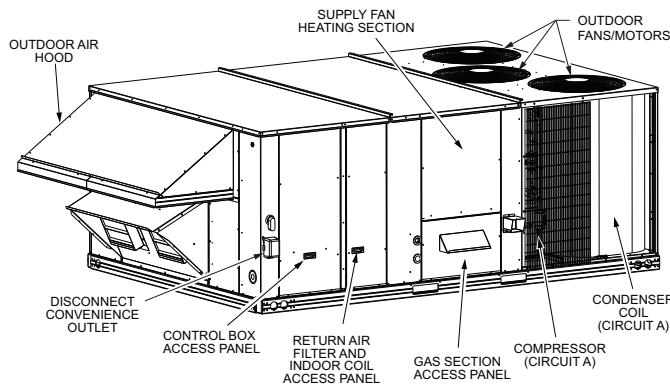

Fig. 1 — Access Panels and Components (Front)
Figure 1 and 2 show general unit arrangement and access locations.
Return air filters are disposable fiberglass media type. Access to the filters is through the vertical panel to the right of the control box. Filters are situated on slide-out racks for easy inspection and repair. See Fig. 1.
1. Remove the Return Air Filter and Indoor Coil Access Panel. See Fig. 1.